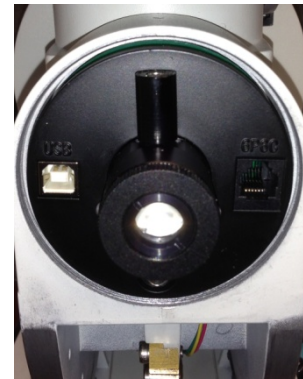
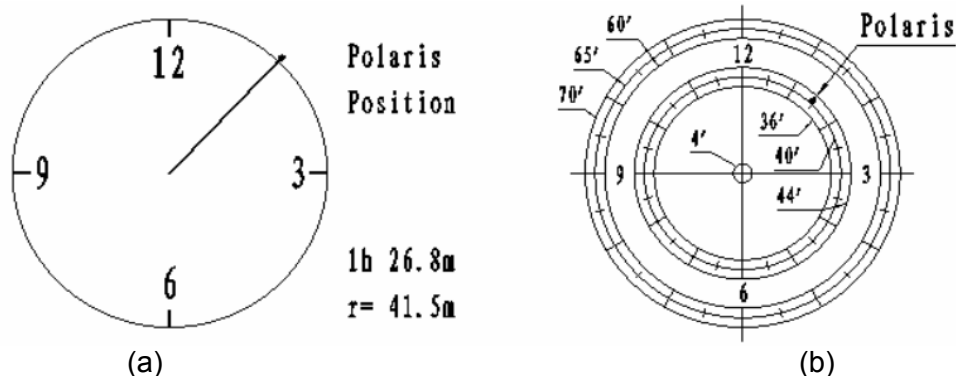

Figure 23. Polar Scope LED
Figure 24. Polaris Position shown on HC (a) and where to put on polar scope dial (b)
- (1) Level the CEM60 mount and set it at Zero Position. Make sure the telescope is parallel to the pole axis (R.A. axis) of the mount. If a finder scope is used, adjust it to be parallel to the telescope optical axis. Remove both the Polar Axis Cover and Polar Scope Cover.
- (2) Connect the polar scope illumination LED (Figure 23) to the Reticle socket located next to DEC motor unit (Figure 3). Turn the mount power on. Use the Hand Controller ("**Settings**" => "**Set Eyepiece Light**") to set the illumination intensity.
- (3) Use the Hand Controller (**MENU** => "**Align**" => "**Pole Star Position**") to display the Polaris Position on the LCD screen, as indicated in the left side of the figure below. For example, on May 30, 2010, 20:00:00 in Boston, United States (Lat N42°30'32" and Long W71°08'50", 300 min behind UT, DST set to Y), the Polaris Position is 1hr 26.8m and  $r = 41.5m$ .
- (4) Look through the polar scope to find the Polaris. Use the Azimuth and Latitude Adjustment Knobs to adjust the mount in both directions and put the Polaris in the same position on the Polar Scope Dial as indicated on the HC LCD. In this case, the Polaris will be located at a radius of 41.5' and an angle of 1 hour 26.8 minute, as shown In Figure 24 (b).